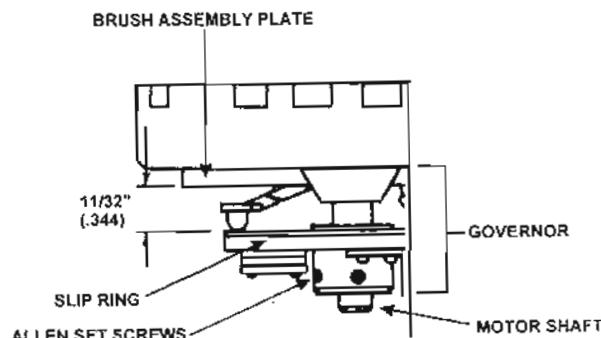

Figure 3-8. Governor brush assembly clearance.
- (1) Install the replacement brush assembly and fasten it to the motor housing by reinstalling the two hex nuts.
- (2) Reinstall the two electrical terminal connectors while following the previously recorded wire colors and connector locations.
- (3) Install the replacement governor onto the motor shaft and slightly tighten the Allen set screws.
- (4) Check for a $11/32$ -inch clearance between the lower brush assembly plate and the governor slip rings (fig 3-8).